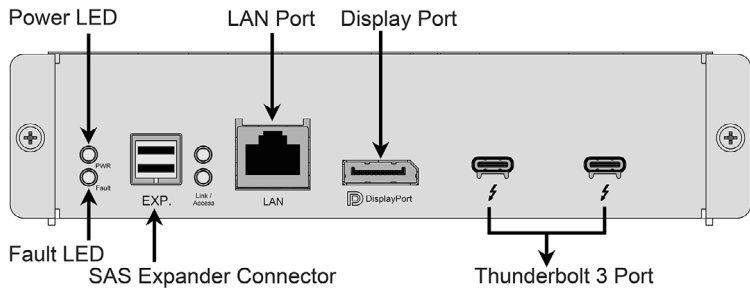

Figure 2-7.
There are a variety of status conditions that cause the RAID storage panel monitoring LED to light. The front panel LCD comes with three (3) status-indicating LEDs. The LEDs on the front panel are defined, from top to bottom, Power, Busy, and Caution, as shown in Figure 2-7.